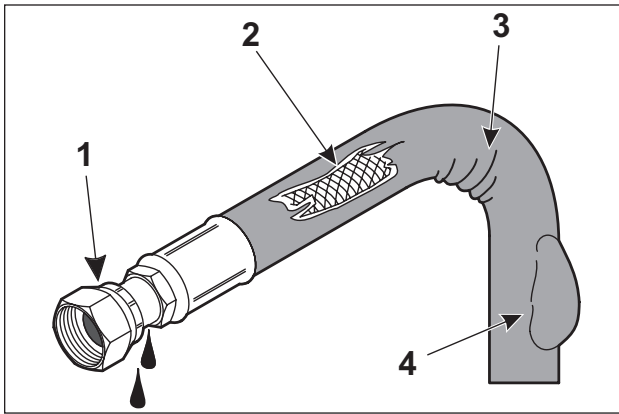

Figure 3-6 Hydraulic Hose Damage
- Some examples of common hydraulic hose damage are shown in **Figure 3-6**.